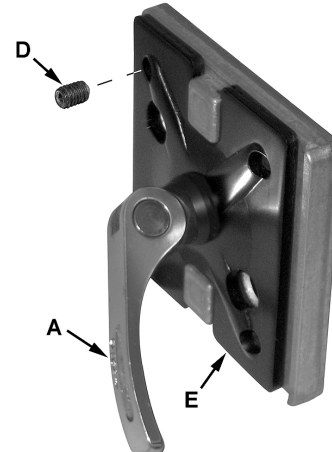

Figure 15
5. Using a 3mm hex wrench, make adjustments to any of the four *set screws* (D, Fig. 15) accessible through openings located in the corners of the *floating clamp block* (E, Fig. 15).